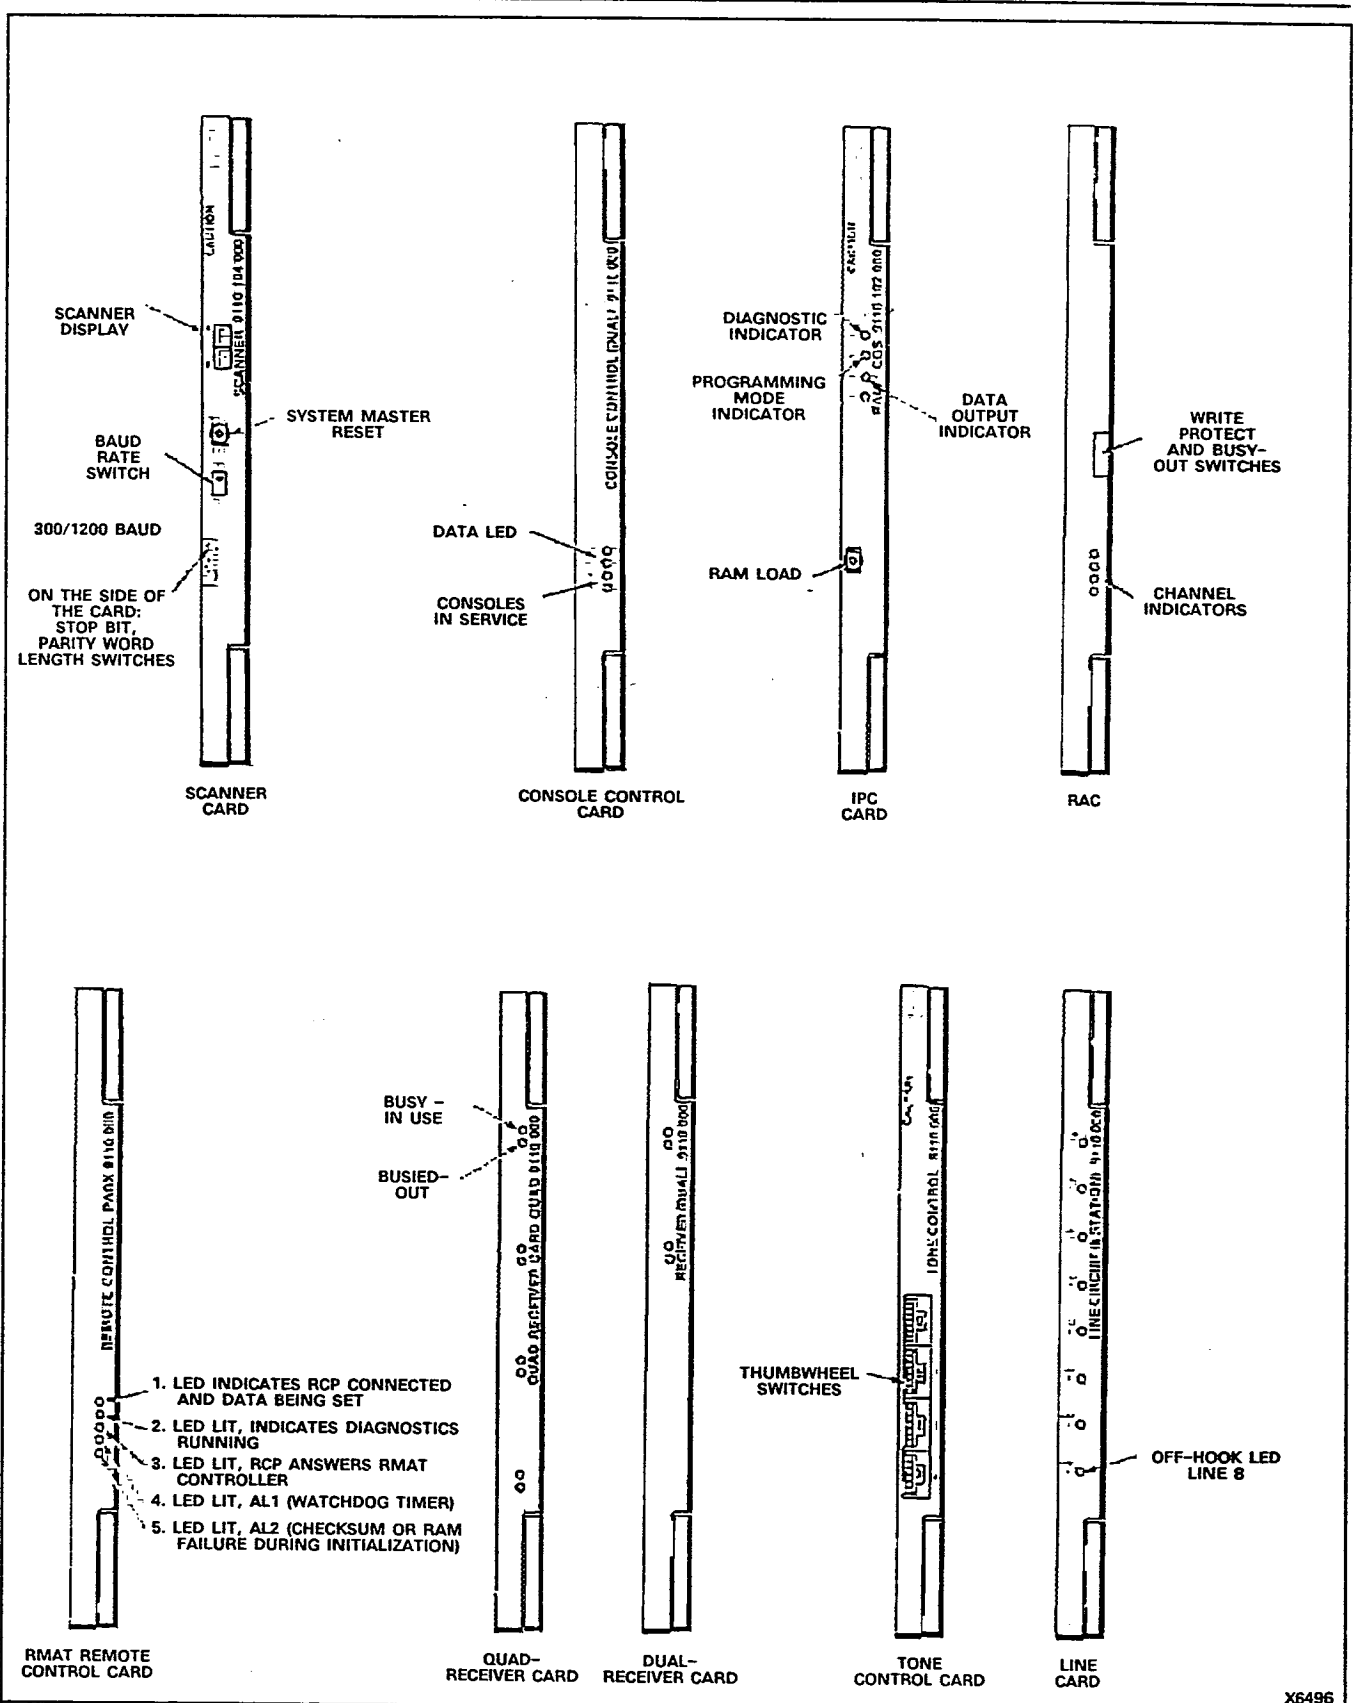

Figure 4-2 Circuit Cards
4.18 IPC Card. This printed circuit card contains the system 32 k Non-Volatile Random Access Memory. It is used for the storage of customer configuration data (Class-of-Service options, numbering plan, etc.) (see Figure 4-2). This card also holds four diagnostic LEDs:
The IPC card contains the system Generic program in Programmable Read Only Memory (PROM), and also contains the microprocessor, which together with the Generic program constitutes the intelligence of the system. The basic system clock is also located on this card (see Figure 4-2).
4.19 Line Card. The Line Card contains eight separate line circuits. The line circuit detects on- and off-hook conditions, which are recognized by the scanner and reported to the processor for appropriate action. Dial signals (rotary dial or DTMF) are passed to a receiver over the speech path selected for the conversation (see Figure 4-2). This card is not compatible with the SUPERSET 4 telephone sets.
4.22 Scanner Card. The basic function of the Scanner Card is to sequentially scan each port (line, trunk, console, receiver) in order to detect signals requiring processor action. If such a signal (e.g., off-hook from a line circuit) is detected, the scanner informs the processor of the port involved. The processor then takes over any subsequent action required. Additional functions of the Scanner Card include a 2-digit alarm display which identifies any malfunctioning card, the master reset button and a data speed (300 or 1200 baud) selector switch for the RS-232 interface. There is also a set of switches to set the character length, stop bits and parity. In addition to the above, the relays for night service, and night bells 1, 2 and 3 are located on this card (see Figure 4-2).
4.23 Tone Control Card. This card provides the tone generators for dial tone, busy tone, reorder tone, ringback tone and miscellaneous tone, along with two DTMF generators and two rotary dial generators which are used by the diagnostic routines and the Supervisor. The four thumbwheel switches used with the test line and programming are also located on the Tone Control Card. In addition, the circuits for Page 1 and Page 2 outputs, and the Music-on-Hold input are located on this card (see Figure 4-2).
4.24 Console Control Card. The Console Control Card provides the interface between the system and two consoles. Console Control Card Number 1 (position 17) is allocated to the Maintenance Console Connector and the Supervisor Console Number 1 Connector. Console Control Card Number 2 (position 16) is allocated to the Supervisor Console Number 2 Connector. The card provides both voice and data signals to and from each console (see Figure 4-2).
4.25 Remote Control PABX. The Remote Control PABX (RCP) Card (Figure 4-2) can be fitted in slot 16 of the PABX shelf to provide the system console button functions remotely, under the control of the RMA Controller (see Section MITL9105/9110-98-101-NA). The main components of the RCP card are as follows:
4.26 Receiver Card. The Dual-Receiver Card contains two rotary dial and DTMF receivers. The Quad-Receiver Card contains four rotary dial and four DTMF receivers. Having received each dialed digit, the receiver informs the processor and prepares for the next digit. On extension-to-extension calls, the receiver is released after the last digit has been dialed, except when the dialed number is busy, in which case the receiver remains for 10 seconds to accept override or call-back codes. On extension-to-trunk calls, the receiver is disconnected after the trunk access code has been dialed (see Figure 4-2), unless:
4.28 Most of the cards employed in the system hold LEDs to display the status of the card. In addition to the LEDs, some cards have a number of switches. Figure 4-1 shows the card positions and Figure 4-2 shows the location of all switches and LEDs. The function of each switch and indicator is described in the following paragraphs.